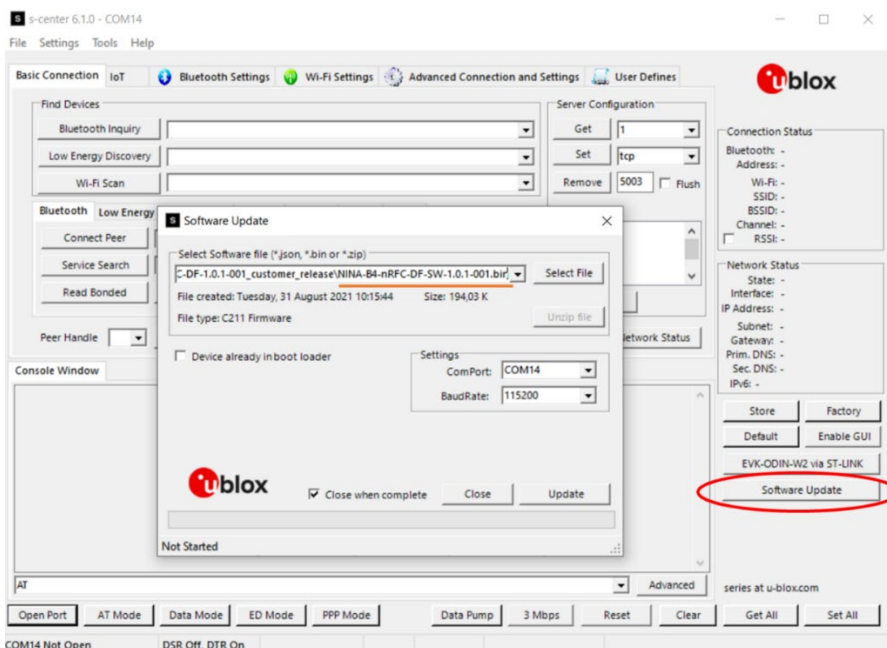

Figure 11: Updating the software on the board using s-center
4. In the “Software Update” dialog select the binary file in the software container, as shown in Figure 11. Make sure the flashing speed is set to 115200.